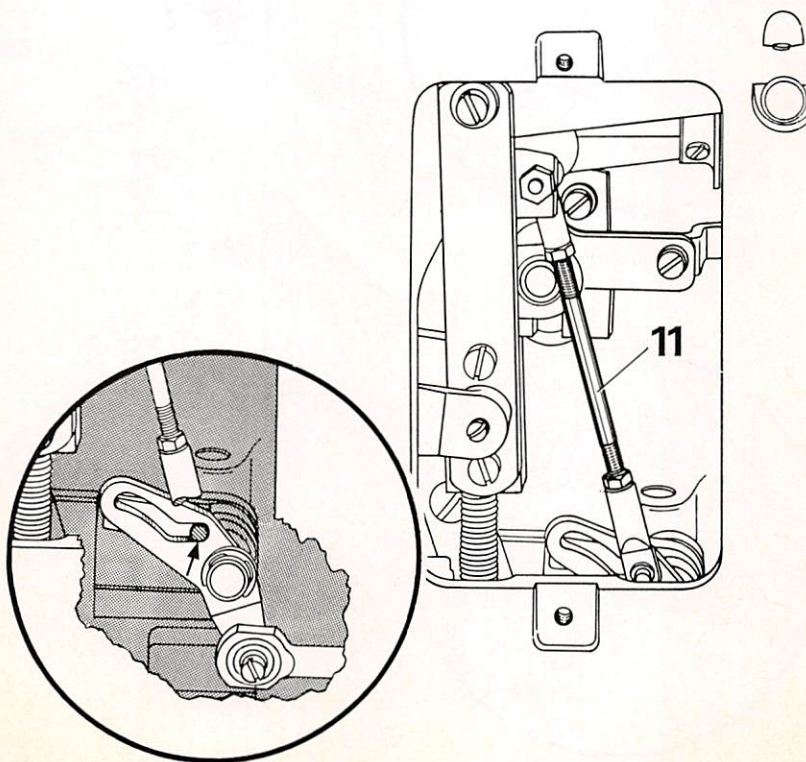

Fig. 7
7. **Adjusting the knife actuating rod (Fig. 7)**
- 7.2. Turn connecting rod 11 until the guide stud is positioned at the lowest point in the slot of the knife actuating segment without exerting any pressure (see en-circled view of Fig. 7).